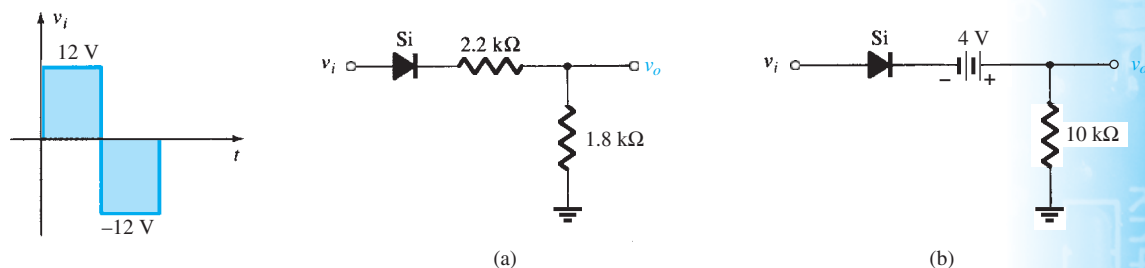

FIG. 2.177
33. Determine v_o for each network of Fig. 2.177 for the input shown.